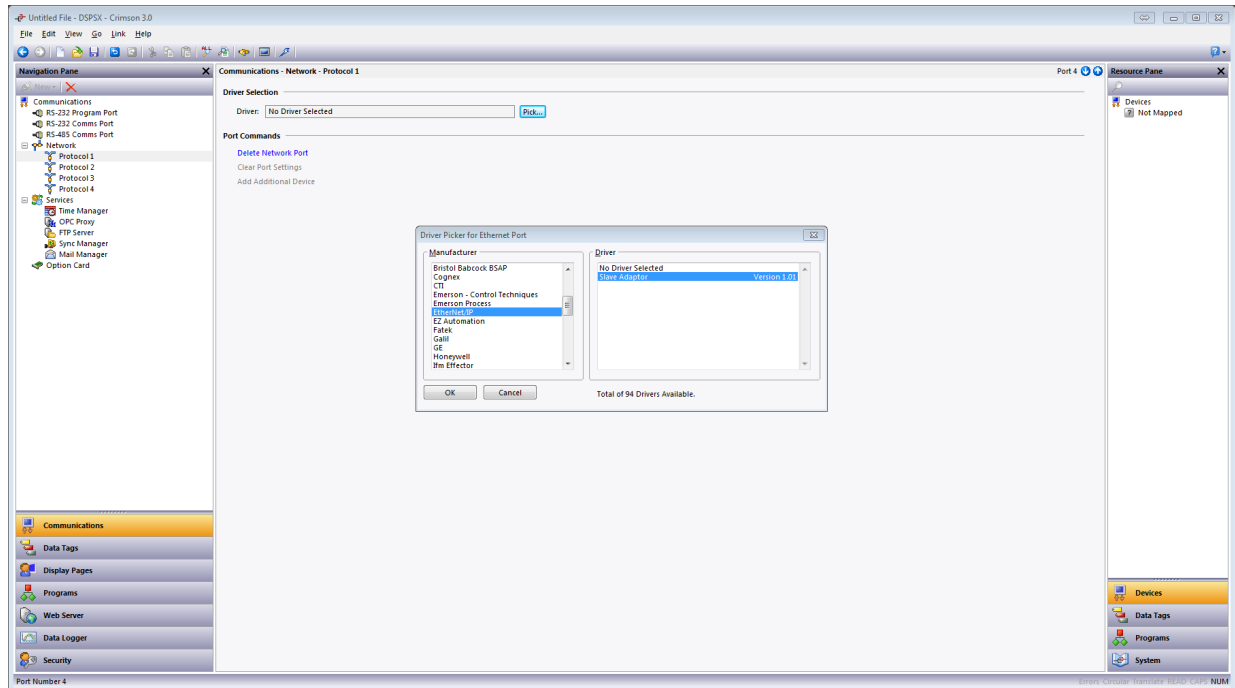

Figure 3.
5. Referring to Figure 3, click on the first available protocol; *Protocol 1* in this case.